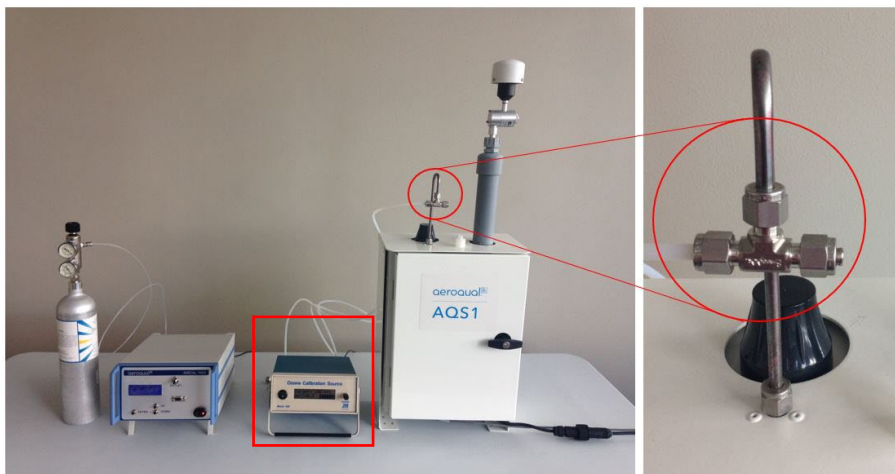

Figure 7-5 When using the Ozone calibrator, make sure the tee fitting is capped.
NOTE: *Change the gas connection from the AirCal 1000 over to the Ozone calibrator. Make sure to cap the end of the tee as shown in Figure 7-5.*
8.10. Deliver ozone from the ozone calibrator at your chosen span point, Aeroqual recommends 0.1 ppm, make sure the tee is closed using the cap as shown in Figure 7-5.